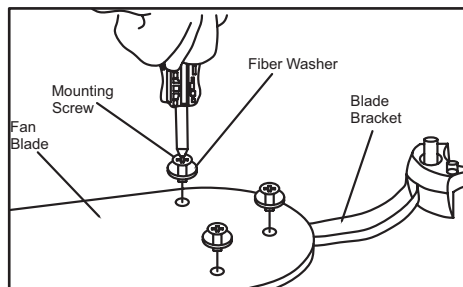

Figure 9
1. Attach blade to blade bracket using the screws provided as shown in figure 9. Insert a screw into the bracket. Repeat for the two remaining screws.